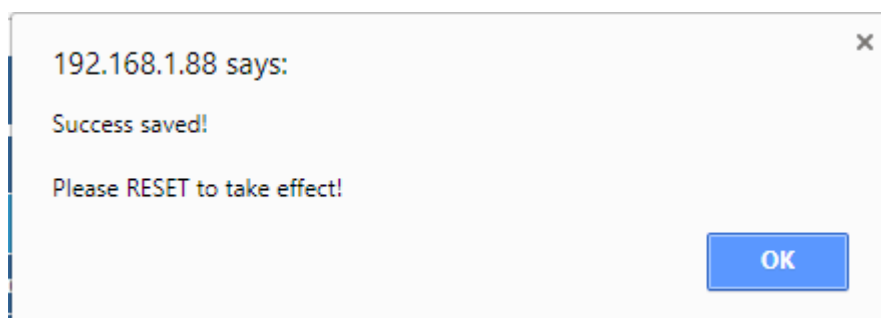

Figure 7-5 Web page prompt - Save Success
**Save Settings:** The button to save all these settings, it shows a prompt window with “Success saved!” message as Figure 7-5.